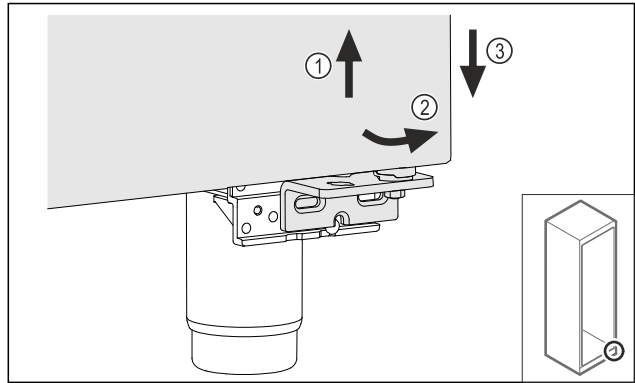

Fig. 18
- Lift the door slightly Fig. 18 (1), tilt it forwards at the bottom Fig. 18 (2) and lower it Fig. 18 (3).